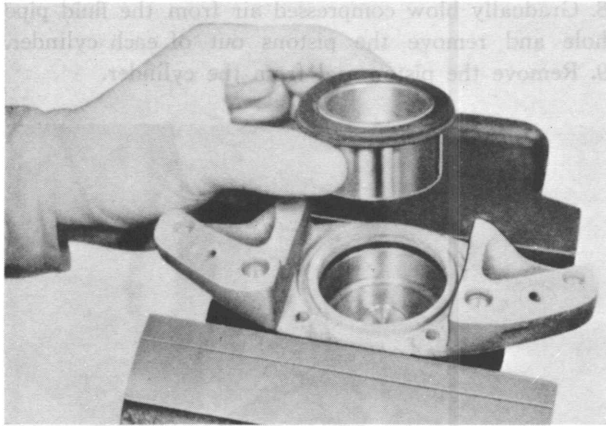

Fig. 10-17 Installing piston
3. Lubricate the cylinder bore and install the piston into the cylinder. (Refer Fig. 10-17)